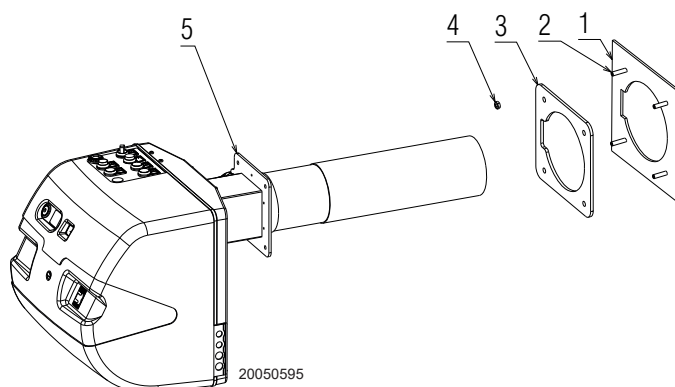

Fig. 20
- Warning: use a suitable sealant and check the gas seal (Fig. 20).